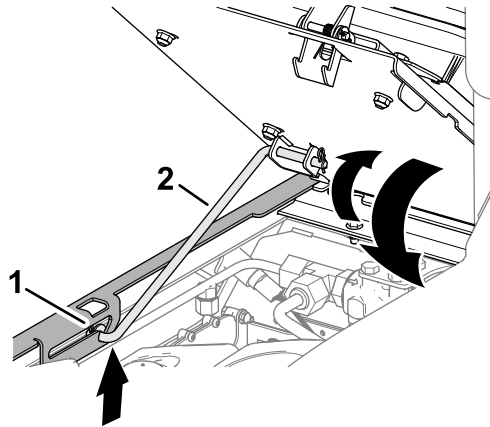

Figure 98
1. Rotate the seat slightly, and lift the prop rod out of the dent of the seat support slot (Figure 98).